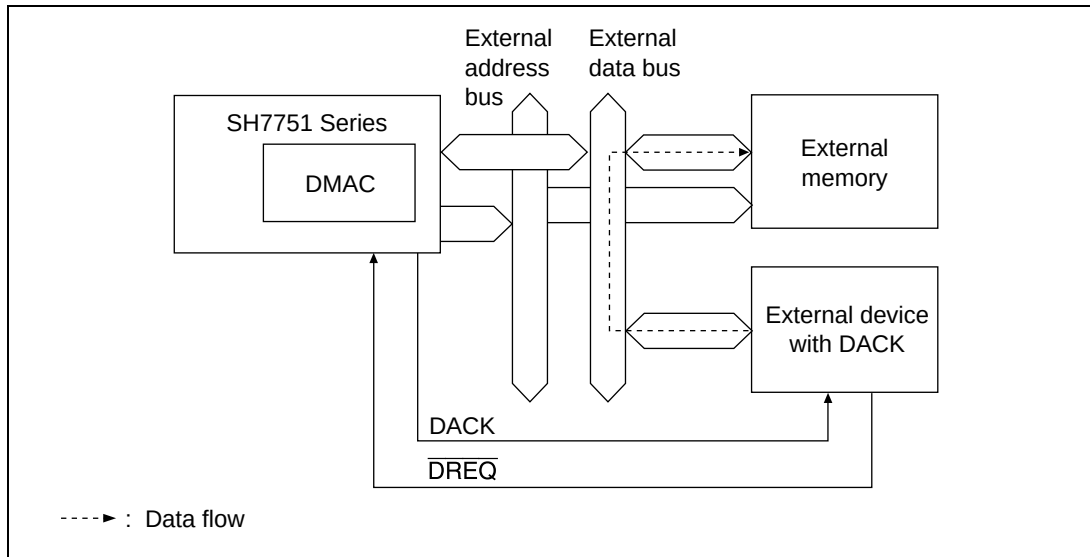

**Figure 14.5 Data Flow in Single Address Mode**
**Single Address Mode:** In single address mode, both the transfer source and the transfer destination are external; one is accessed by the DACK signal and the other by an address. In this mode, the DMAC performs a DMA transfer in one bus cycle by simultaneously outputting the external device strobe signal (DACK) to either the transfer source or transfer destination external device to access it, while outputting an address to the other side of the transfer. Figure 14.5 shows an example of a transfer between external memory and an external device with DACK in which the external device outputs data to the data bus and that data is written to external memory in the same bus cycle.